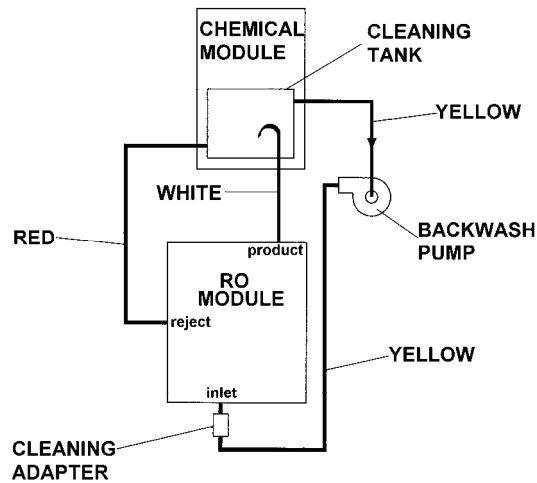

Figure 9. RO Element Cleaning Piping Diagram.
23. The RO cleaning solution is ready to be circulated. See Figure 9.